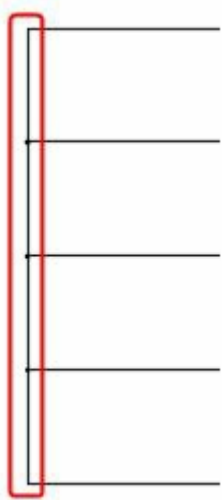

Figure-57. Wire connecting end points
- Connect all the end points of the wire bus by creating a wire; refer to Figure-57.